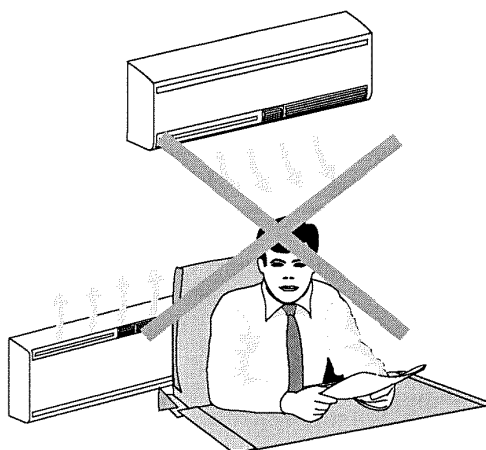

Fig. 2
- It should not be installed in a position where the air flow can strike the people underneath directly (fig. 2).